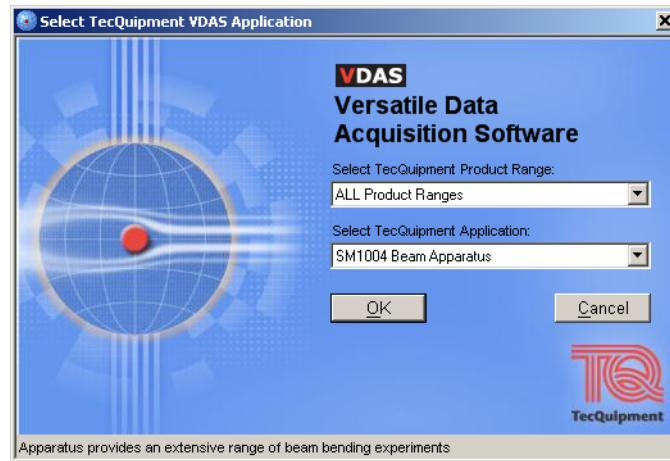

Figure 14 The 'Select TecQuipment Application' Screen
- The first time that you use VDAS, the software will show a 'Select TecQuipment Application' Screen (see Figure 14). Use this screen to select the TecQuipment VDAS-compatible product that are to use with the VDAS software. The software will then set itself to automatically load the correct settings and Layout for your product.